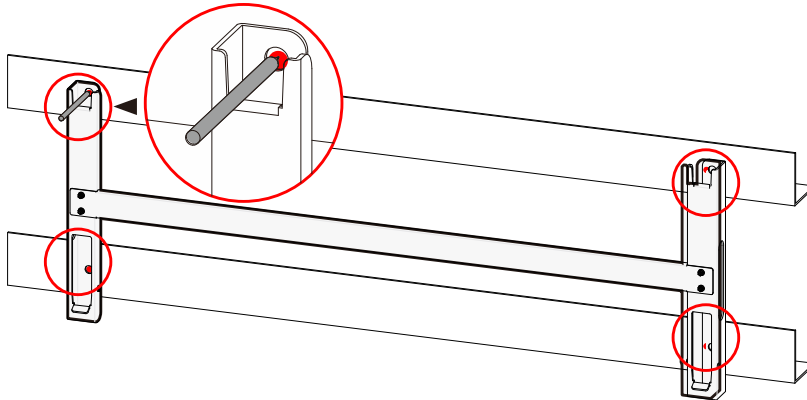

Figure3-12 Mark the mounting holes position
- Step 2 Place the assembled installation holder onto the installation site, use a horizontal ruler to adjust the angle, and mark the mounting hole position on the bracket, as shown in Figure3-12.